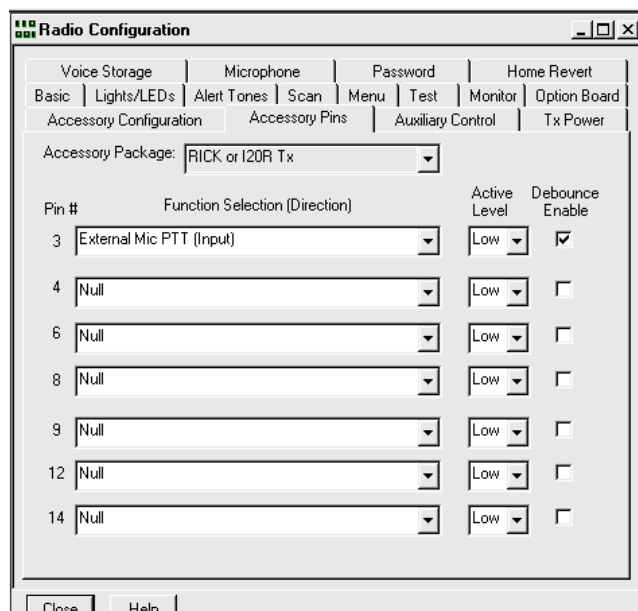

Figure 8-6. Basic (R*I*C*K) Unidirectional Repeater, Accessory Pins, Transmit Radio
- Click the “Accessory Package” dropdown arrow button. Select “RICK or I20R Tx”. Verify that pin 3 is “External Mic PTT (Input)”, Active Level “Low”. Your screen should appear similar to Figure 8-6.